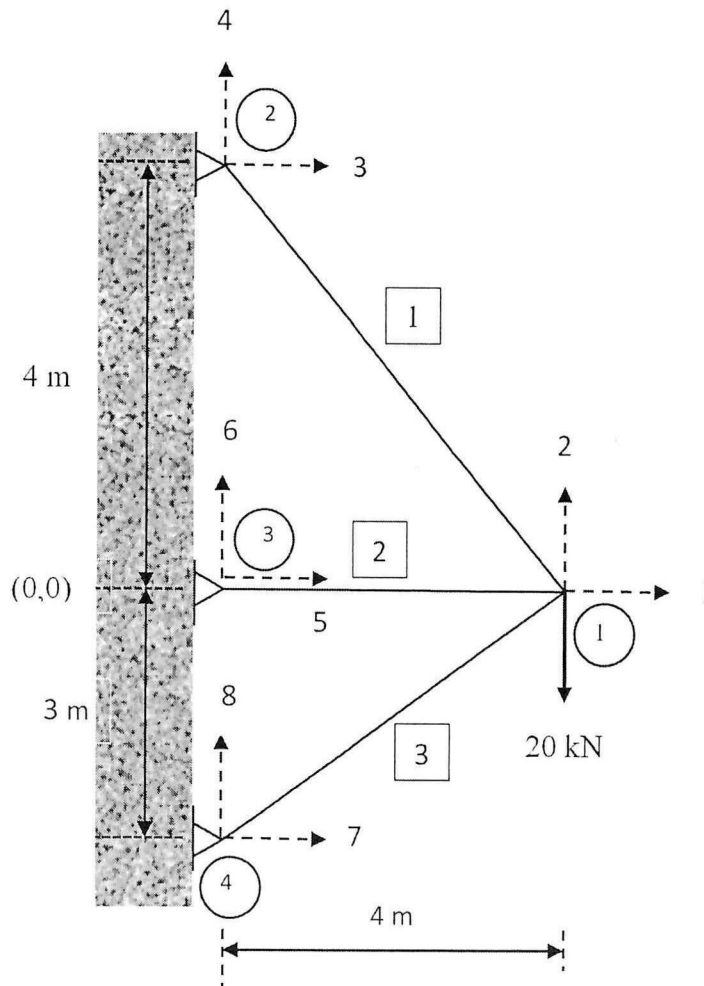

FIGURE Q2
- Q2** A truss as shown in **Figure Q2** is pinned supported at points 2, 3 and 4. Point load of 20kN is acting downward at point 1. Using finite element method, determine: